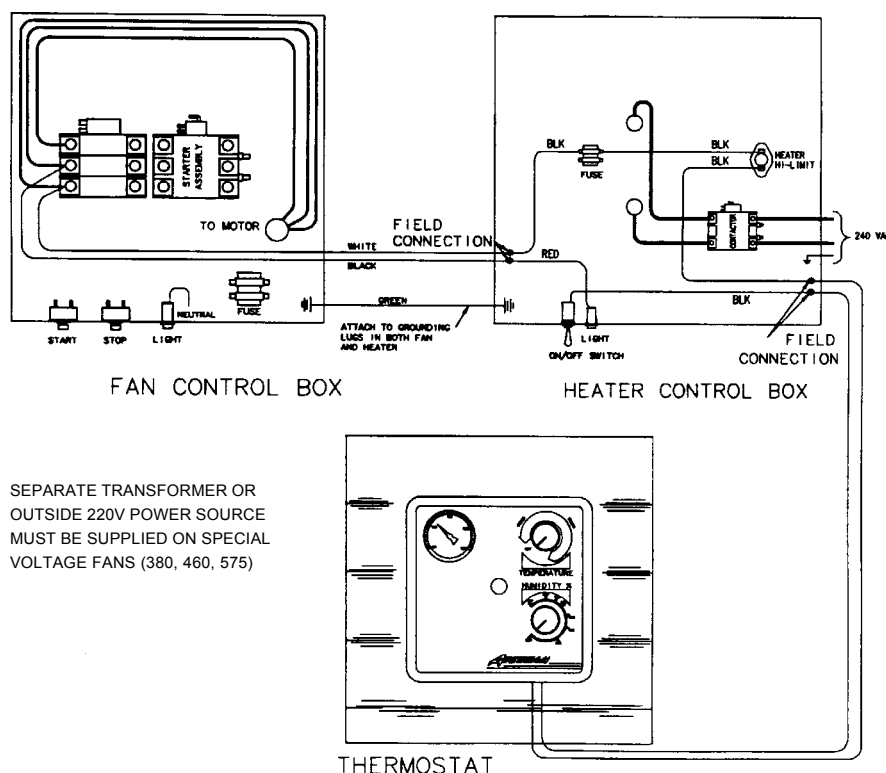

Figure 4: Electric heater wiring to fan unit.
2. Make field connection of wires as shown in Figure 4.
Figure 4: Use a #6 or approved size bare copper ground wire. Install a 5/8" diameter 8' long copper-clad ground rod, 2' away from the foundation and 1' below the surface of the ground or in accordance with local requirements.